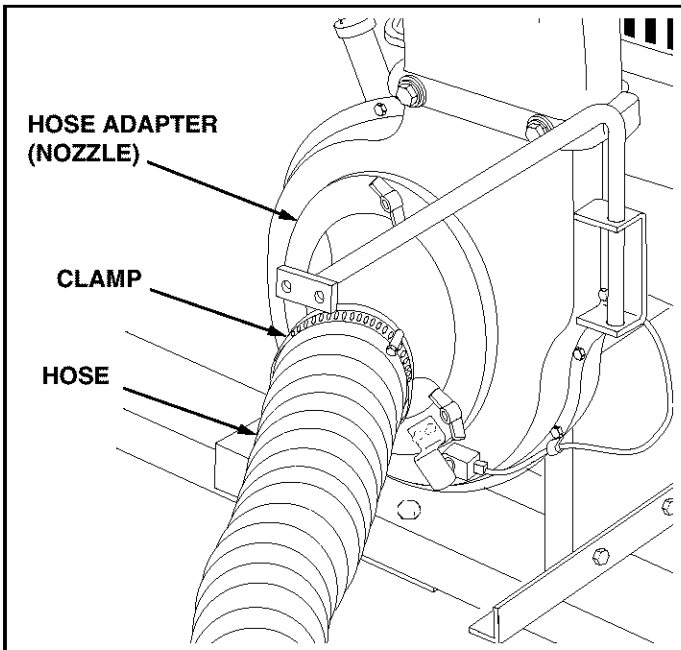

FIGURE 19
- Place a hose clamp onto the end of the hose. Push the hose onto the hose adapter (nozzle). Tighten the hose clamp onto the hose and hose adapter. **Do not collapse the hose adapter when tightening the clamp.** See figure 19.